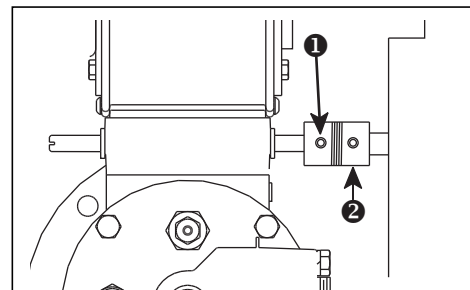

Figure 4.3. Actuator with Flexible Coupling
- a. For air control actuators that have a coupling with set screws, as shown in Figure 4.3, loosen the set screw ❶ on the burner side of the coupling ❷.
- d. For air control actuators that have a coupling with set screws, as shown in Figure 4.3, hold the butterfly valve firmly in place and tighten the set screw ❷.